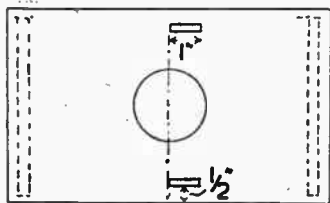

Fig. 4—Detail of lid of case
given at (D) in Fig. 4. These can be cut from $\frac{1}{2}$ in. fretwood. The mortise slots for their reception, to be cut in the lid, are marked off on one side of a line cutting across the middle of the lid, as will be seen.